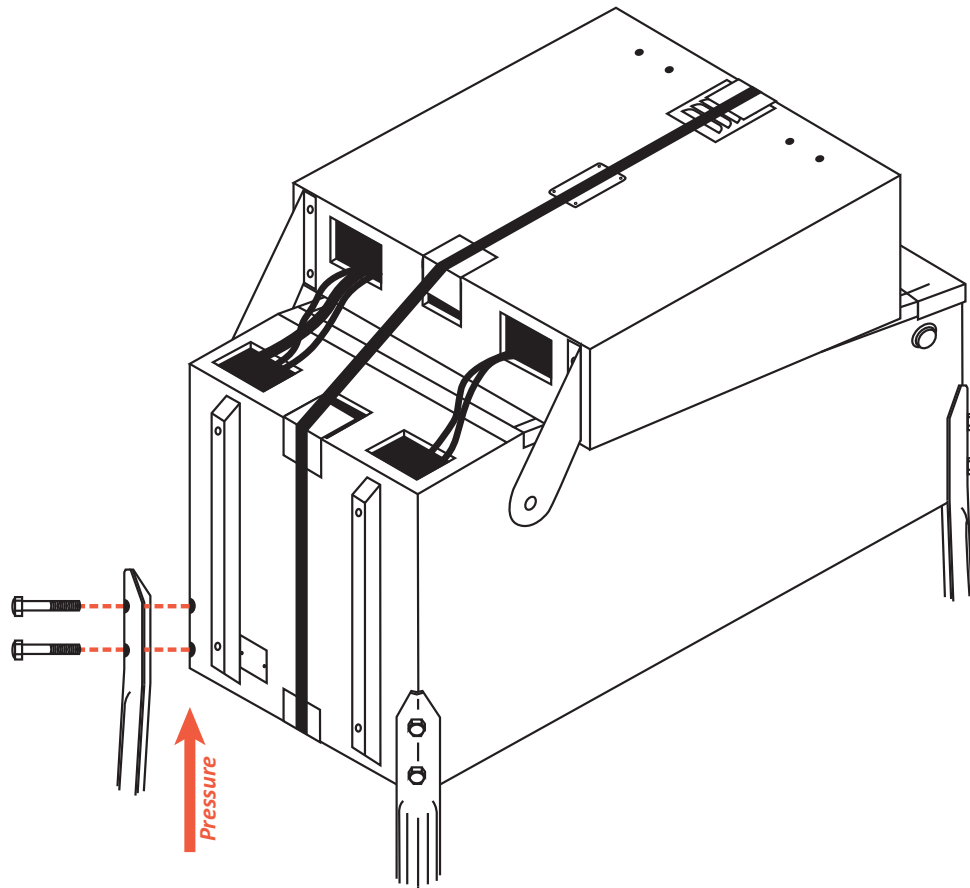

Figure A6. Installing the rear legs and cabinet protectors.
**6)** With the help of at least one other person, carefully tip the game onto its front legs. Lift the rear of the cabinet and have two people support it or place it on a sturdy support. As with the front legs, attach the two rear legs, using the four remaining acorn-head bolts. Tighten all bolts firmly, while maintaining upward pressure on the legs (see figure A6). Lower the game onto its legs.